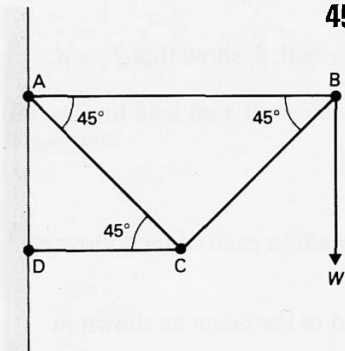

Figure A113
- 45(P)** Four hinged rods are mounted in a vertical plane as shown in figure A113. A weight  $W$  is suspended from point B.